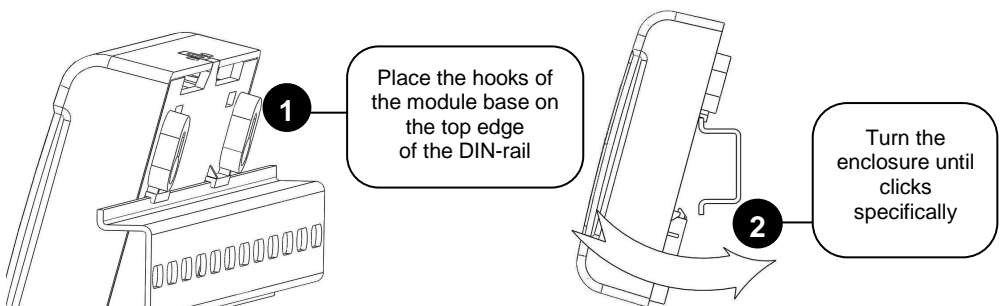

Figure 3. Mounting the Module to the DIN-Rail
- 3.2.2 Install the module on the DIN-rail as shown in Figure 3.